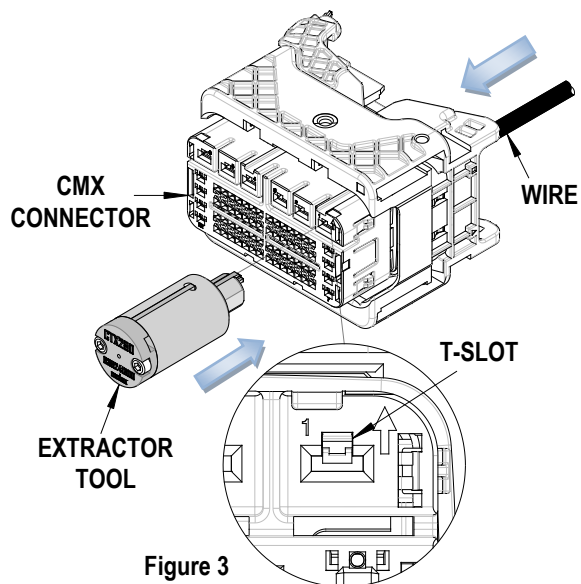

Figure 3
1. Position the blade of the extraction tool into the small "T" slot in the front face of the housing as shown in Figure 3. Use the identifying markings on both the front and back of the connector to locate the opening used to extract the crimped wire.